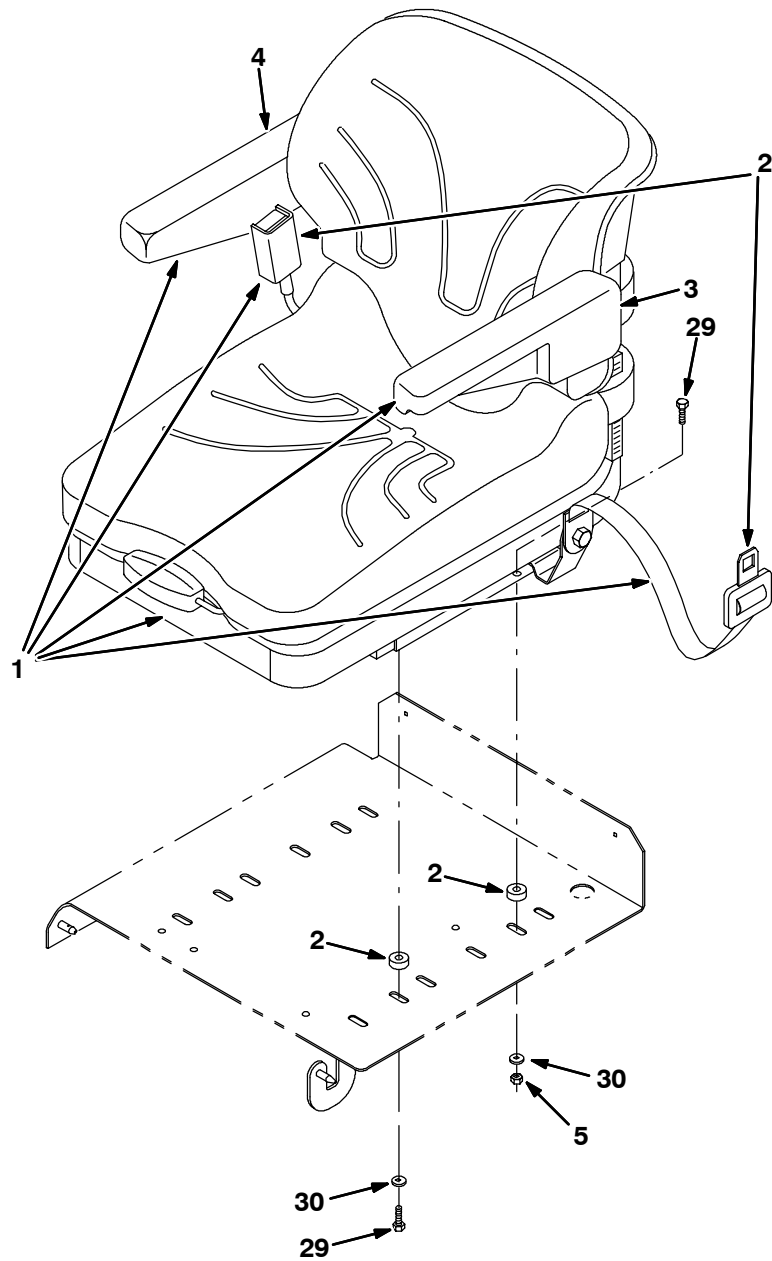

FIG. 1 - New Deluxe Operator Seat Installation
(Refer to FIG. 1 thru 4)
(Refer to FIG. 1)
4. Position new deluxe operator seat 377070 on the machine seat support. Mount deluxe operator seat 377070 to the seat support with hex screws 76570, washers 32492, and lock nuts 41430. (Refer to FIG. 1)